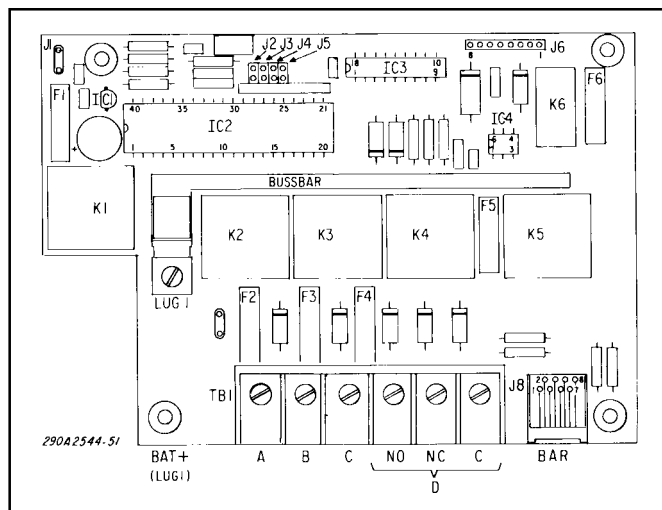

Figure 3-10. Relay Circuit Board.
2. Route a #10AWG or larger (depending on accessory loads) red wire through the hole labeled +BAT. Attach it to the large lug-type terminal (LUG1) on the circuit board (see figure 3-10). Since this wire provides the power source for the **siren** and all **relay-switched auxiliary functions**, a good mechanical and electrical connection here is important. Also, ensure that there are no loose wire strands which may cause a short circuit.